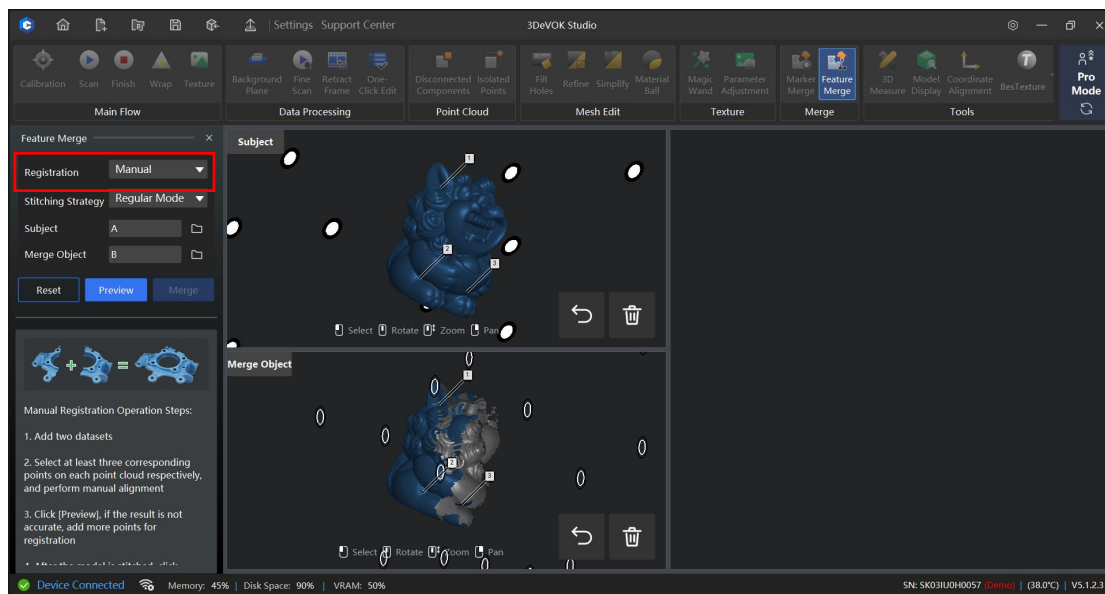

Figure 9-4 Manual Registration-Select Common Features
5. For objects with weak geometric features, switch the "Registration Mode" from "Auto" to "Manual" in the top-left corner of the software. Then, manually identify at least three corresponding point pairs between Model A and Model B by left-clicking to select each matching feature, as shown in Figure 9-4. If incorrect features are selected during alignment, delete erroneous points with the Delete button, and re-select. Repeat this process until a minimum of three matching point pairs have been successfully established between the two models.